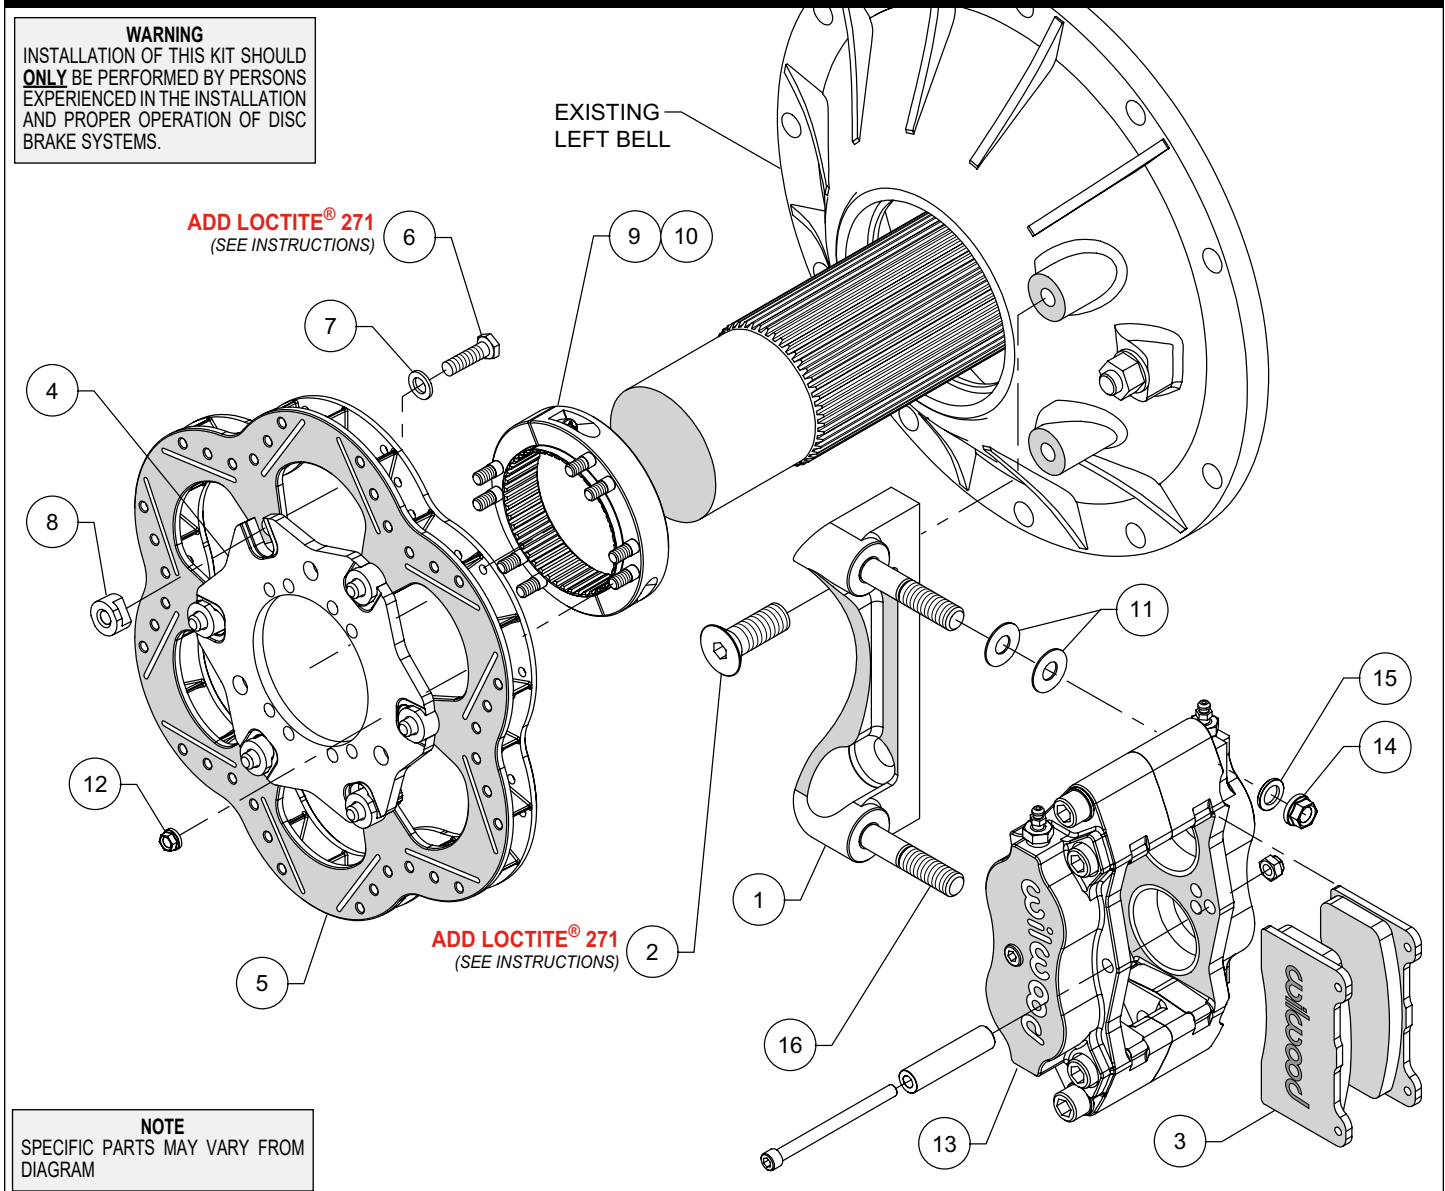

Figure 1. Typical Installation Configuration
**NOTE:** Numbers in parenthesis refer to the parts list and Figure 1 on the preceding pages.
- Orient the bracket (1) as shown in Figure 1 and install using bolts (2). Temporarily tighten bolts. **NOTE:** Bracket must fit squarely against the mounting bosses on the bell. Inspect for interference from casting irregularities, machining ridges, burrs, etc. Remove the bracket mounting bolts one at a time, apply red *Loctite*® 271 to the threads, and torque to 47 ft-lbs.
- With the T-notches of the rotor adapter (4) facing away from the rotor (5), attach adapter to rotor using bolts (6), washers (7) and t-nuts (8) as shown in Figure 1. Apply red *Loctite*® 271 to the bolt threads before installing. Finger tighten. After all t-nuts have been installed, torque bolts to 220 **in-lbs** using a criss-cross pattern. Please refer to Wilwood's data sheet DS-669 (available at [www.wilwood.com/Pdf/DataSheets/ds669.pdf](http://www.wilwood.com/Pdf/DataSheets/ds669.pdf)) for complete t-nut bolt kit installation instructions.
- Orient the axle clamp assembly (9 and 10, pre-assembled) as shown in Figure 1 and install onto the rotor adapter (4) using nuts (12). Tighten nuts part way while still allowing clamp-to-rotor movement. The nuts will be torqued later, after aligning the rotor. **NOTE:** The axle clamp should be positioned inside of the rotor as shown in Figure 1, not offset, or outside of the rotor adapter.
- Initially place two shims (11) on each stud (16) as shown in Figure 1. Mount the caliper (13) onto the bracket (1) using washers (15) and lock nuts (14), Figure 1. Temporarily tighten the lock nuts (14) and view the rotor through the top opening of the caliper. The rotor should be centered in the caliper. If not, slide the rotor/adaptor assembly on the axle until the rotor is centered in the caliper. Tighten the clamp nuts first, locking the clamp to the axle. Torque nuts (12) to 140 in-lbs.
- Remove the caliper center bridge pad retainer bolt, nut, and tube from the caliper. Insert the brake pads (3) into the caliper, with the friction material facing the rotor. Check that the top of the brake pad is flush with the outside diameter of the rotor. If not, adjust by adding or subtracting shims (17) between the caliper and the bracket. After the caliper pad height is set, torque the caliper lock nuts (14) to 30 ft-lb. Secure the brake pads in place with the center bridge pad retainer tube, bolt, and locknut. The locknut should be snug without play in the bolt or tube. Be cautious not to over tighten.